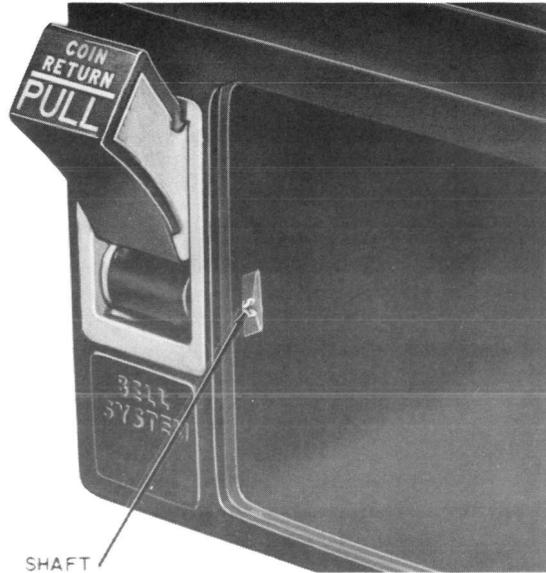

Fig. 21 — Pull Bucket Retaining Shaft
- (1) Use diagonal pliers to pry up tabs on split end of pull bucket retaining shaft (Fig. 21).
- (2) Compress tabs with pliers to line up with shaft.
- (3) Drive shaft from housing using hammer and drive punch.
- (4) Swing pull bucket to open position and pull forward until ends of springs are exposed.
- (5) Use TP-75503 spring hook to disconnect springs from coin chute crossbar.
- (6) Disconnect springs from pull bucket crossbar.